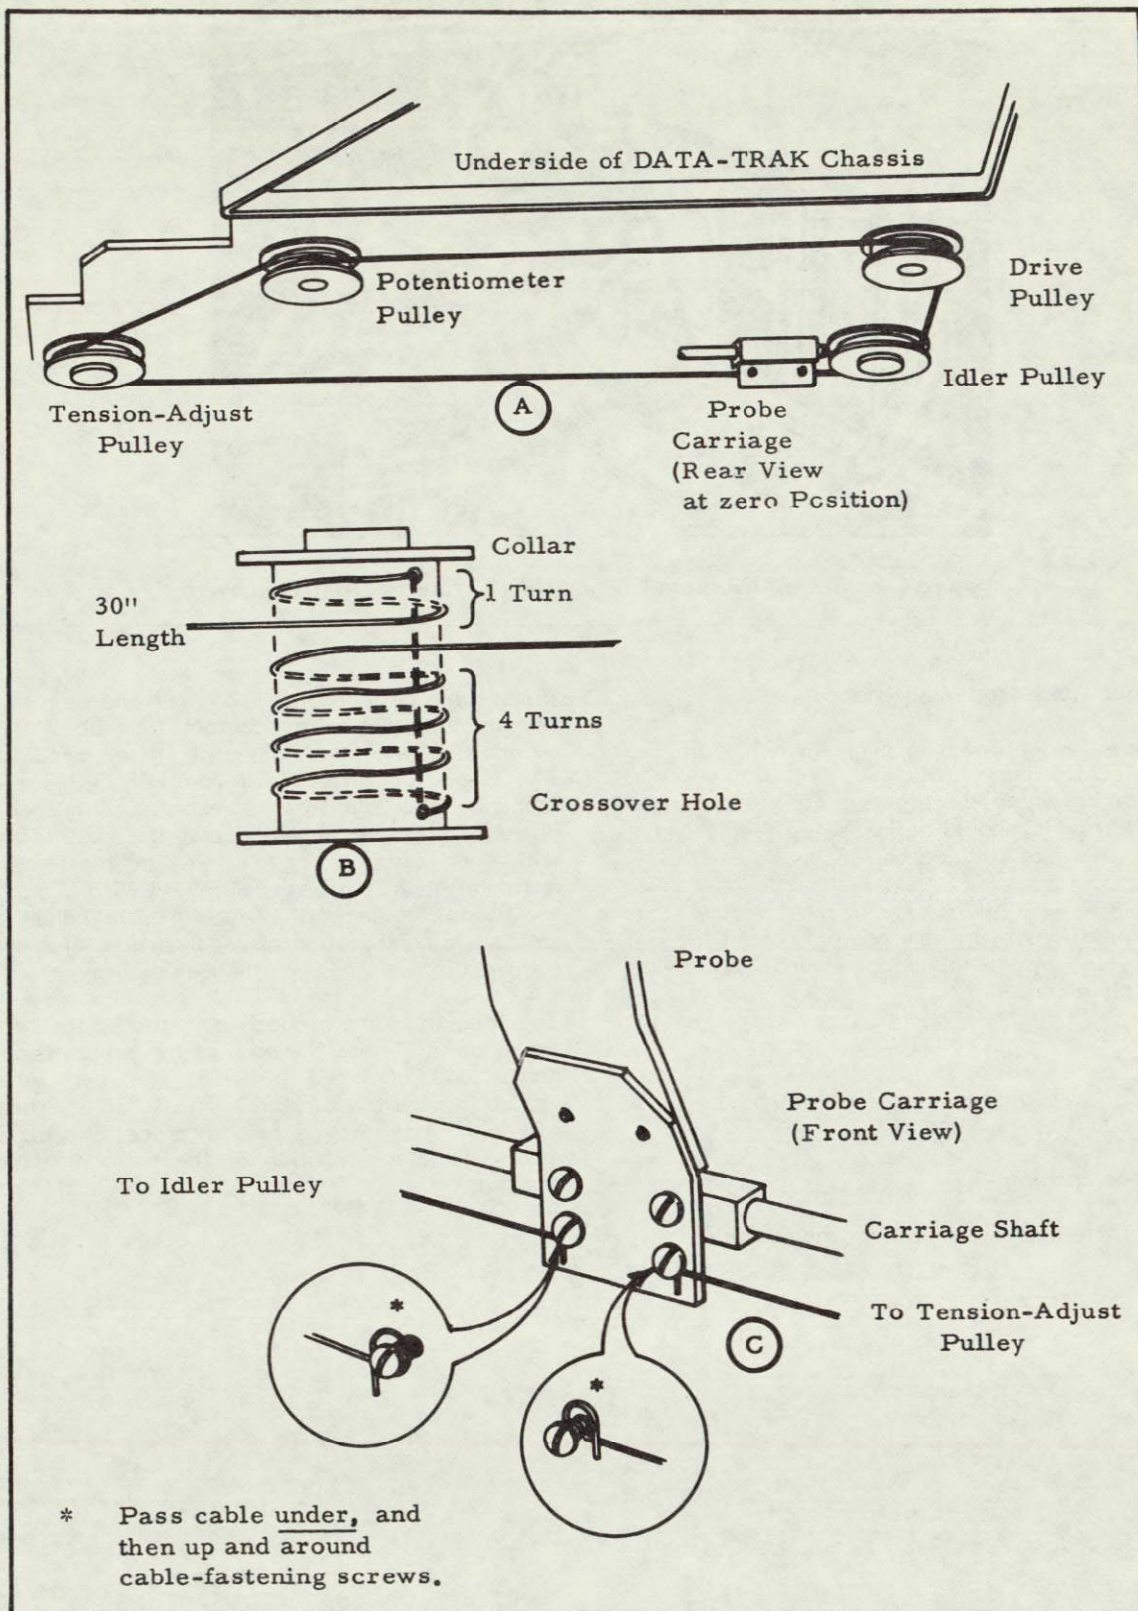

Figure 6-1 Drive Cable Wiring System
Under normal conditions, the drive cable will remain serviceable indefinitely, requiring only retensioning from time to time if slippage is indicated by the necessity of frequent potentiometer alignment (see Heading 6-5). Retensioning is accomplished by loosening the lock screw on the tension adjust pulley (see Figure 6-1) and sliding the unit to left (as seen from rear of chassis) just enough to take up excessive slack and then relocking it in position.
If it becomes necessary to replace the drive cable refer to Figure 6-1 and proceed as follows:
- 4) Wrap the 30 inch length counterclockwise around the pulley one full turn then, holding the looped end in position with left thumb, wrap the opposite end clockwise around the pulley four full turns. The cable is now wound on the pulley as shown in Figure 6-1 B and may be secured in this position for the present, with a strip of masking tape. If more than one potentiometer pulley is used, each pulley will be wrapped in like manner.
- 8) Loop the shortest end of the cable from the potentiometer pulley one half turn around the tension adjust pulley; then secure the end of the cable under the left hand cable fastening screw on the probe carriage as shown in Figure 6-1 C.
- 9) Loop the opposite end of the cable one full turn around the motor pulley and then a half turn around the idler pulley before securing it under the right hand cable fastening screw on the probe carriage as shown in Figure 6-1 C.